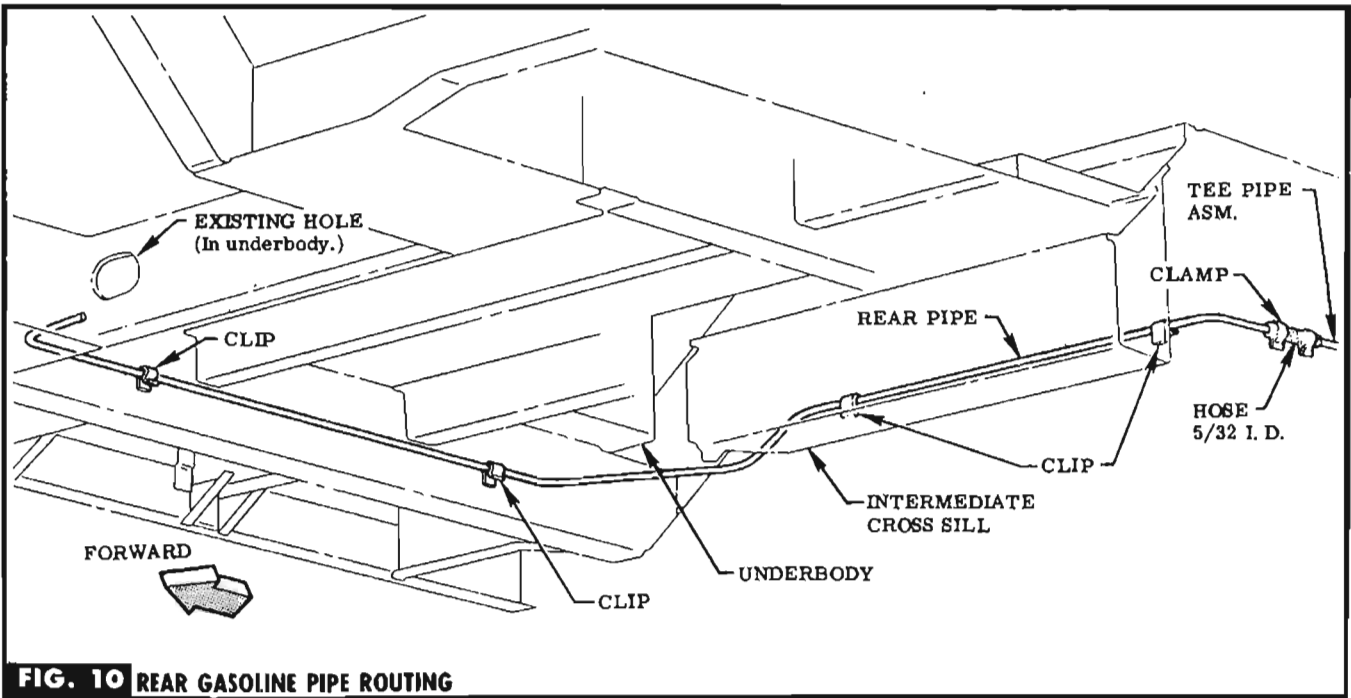

FIG. 10 REAR GASOLINE PIPE ROUTING
STEP 45 FROM UNDERSIDE OF VEHICLE, ROUTE REAR PIPE FORWARD & CLIP TO INTERMEDIATE CROSS SILL & TO SIDE RAIL WITH CLIPS PROVIDED (IN BAG C). SEE FIG. 10.
STEP 46 JOIN REAR PIPE & TEE PIPE WITH HOSE & CLAMPS PROVIDED (IN BAG C). SEE FIG. 10.